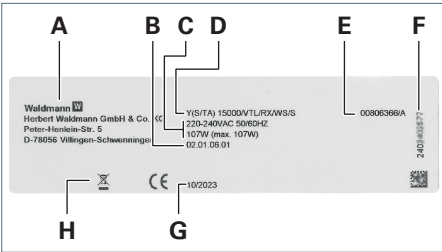

Fig. 42: Rating plate luminaire head (example).
- Existing luminaire head, as of serial number 2402389763, see Fig. 42.